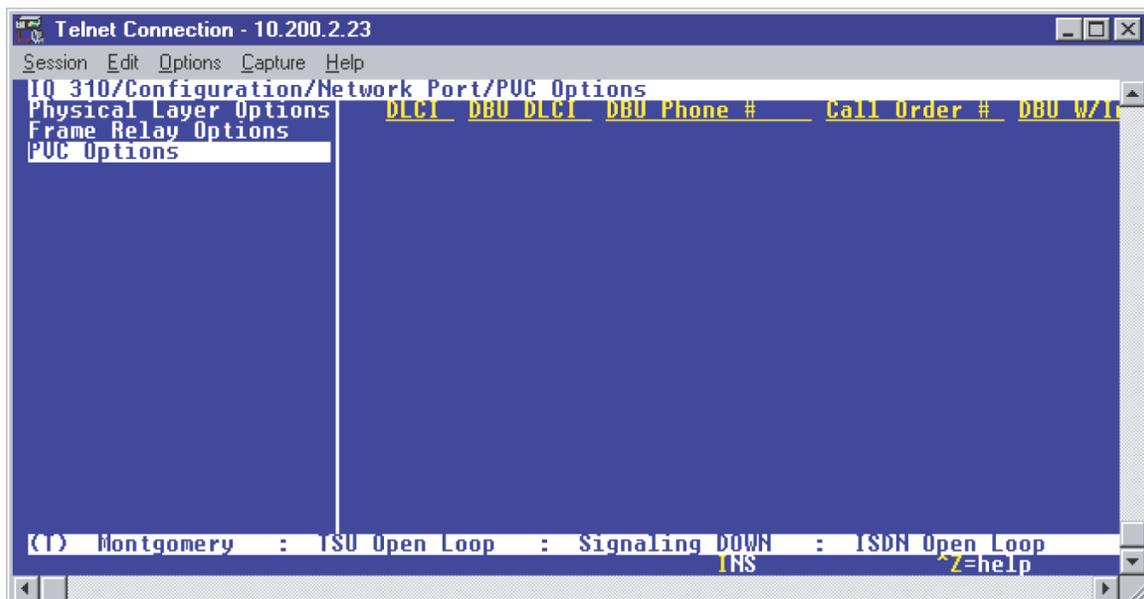

Figure 45. PVC Options Menu
- Down arrow until **PVC OPTIONS** is selected. Press <ENTER> and the screen shown in Figure 45 is shown.